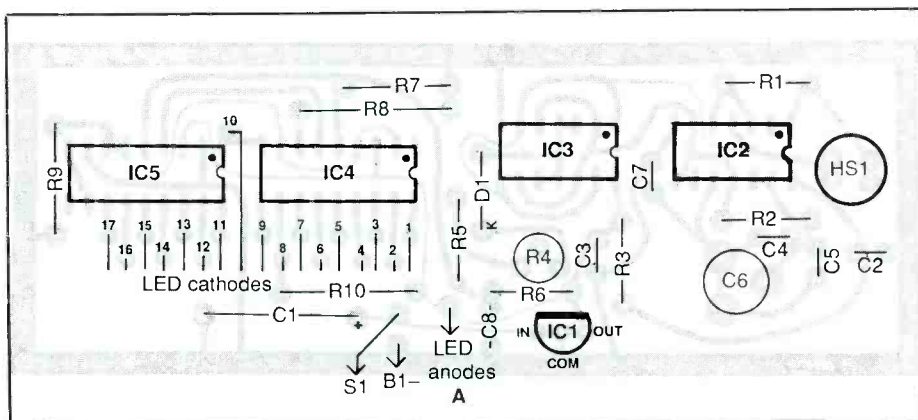
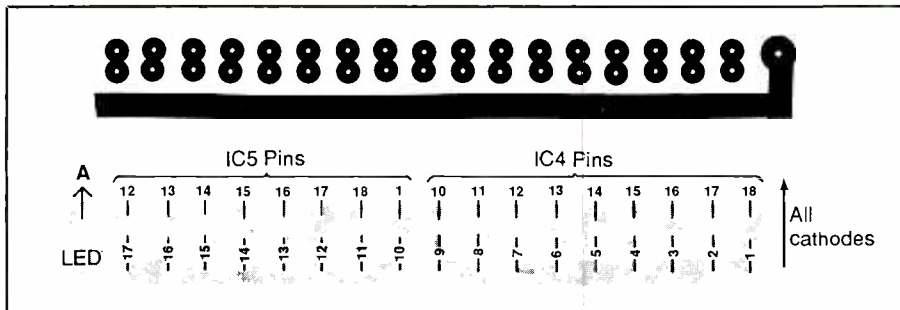

Fig. 7. Wiring guide for main pc board.
Fig. 8. Actual-size etching-and-drilling guide (A) and wiring guide (B) for display board.
From this point onward, we will assume printed-circuit construction. Place the ready-to-wire board on your work surface oriented as shown in Fig. 7. (Note: If you elect perforated-board construction, use Fig. 7 as a rough guide to component placement and orientation.) Begin wiring the board by installing and soldering into place the sockets. Do *not* plug the ICs into the sockets until after you have conducted preliminary voltage checks and are certain that the circuit has been properly wired.
Next, carefully following Fig. 7, install and solder into place the resistors and trimmer potentiometer *R4*. Note that some resistors are precision metal-film types. These are used in the circuit to ensure that calibration of the hygrometer does not change with changes in temperature and component aging. Make sure you install these resistors in the correct locations on the board.
If you use the LED display, you will need a separate printed-circuit board (or perforated board with suitable hardware) on which to mount the LEDs and to wire to the main board. You can fabricate the board yourself using Fig. 8(A) or buy a ready-to-wire board from the source given in the Note at the end of the Parts List.
Interconnect the two circuit-board assemblies as detailed in Fig. 7 and Fig. 8(B), using suitable length light-gauge stranded hookup wires. After cutting all wires to length, strip 1/4 inch of insulation from both ends. Tightly twist together the fine conductors at both ends of all wires and sparingly tin with solder. Plug one end of the wires into the holes for them in the main circuit board from the component side and solder into place. Then plug the free ends of the wires into the appropriate holes in the display board from the solder side and solder into place.